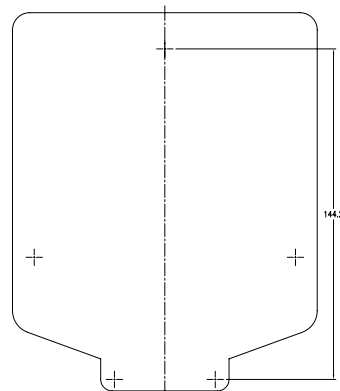

Figure 1: Use Mounting Template (included)
- Use the mounting template (included) to mark the mounting screw location on the wall. *See figure 1*